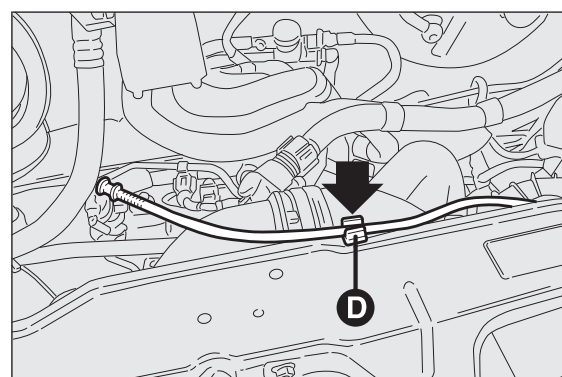
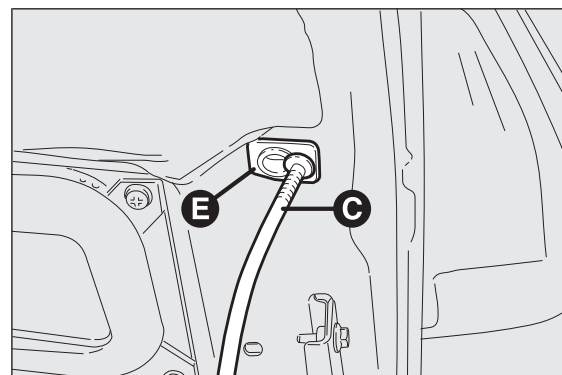

fig. 128
fig. 129
- ☐ lift the bonnet and, at the same time, release the bonnet stay fig. 128 from its locking device D, then insert the end fig. 129 of the bonnet stay into the housing E.
- ☐ hold the bonnet up with one hand and with the other remove the stay C fig. 129 from the housing E and fit it back in its locking device D fig. 128;